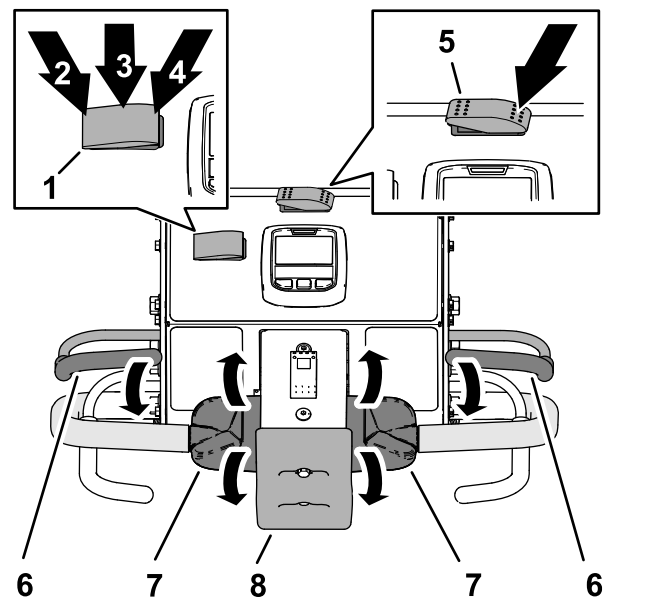

Figure 81
1. Press the transport/aerate switch to the TRANSPORT position (Figure 81).